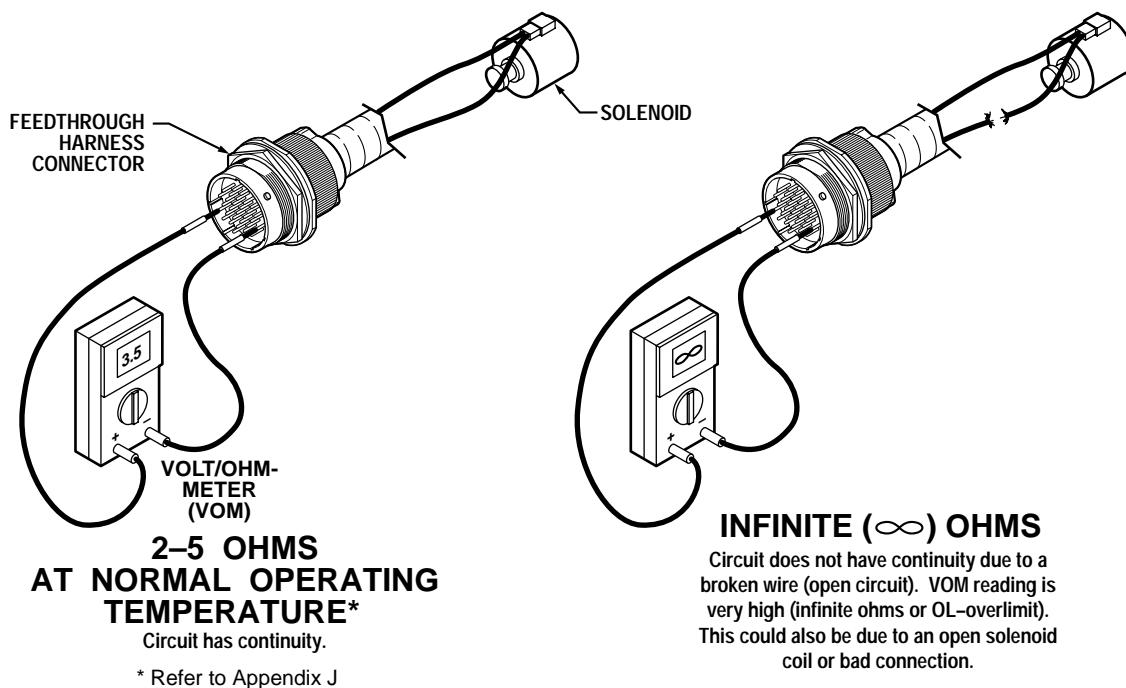

Figure 4–3. Checking Continuity
- b. If the resistance check is good, check the harness for shorts between wires and to ground by performing the following (Figure 4–4):
- (1) At the transmission connector, touch one probe of the VOM to one wire of the circuit being tested and touch the other probe to each terminal in the connector and to chassis ground and the transmission main housing. Do this for both wires in the circuit being tested.
- (2) If the VOM shows zero to low resistance, or the continuity beeper sounds, there is a short between the two points being probed, wire-to-wire or wire-to-ground. An indication of a short may be caused by a splice to the wire being checked. Check the wiring diagram in Appendix J for splice locations. If the short is not a splice, then isolate and repair the short.